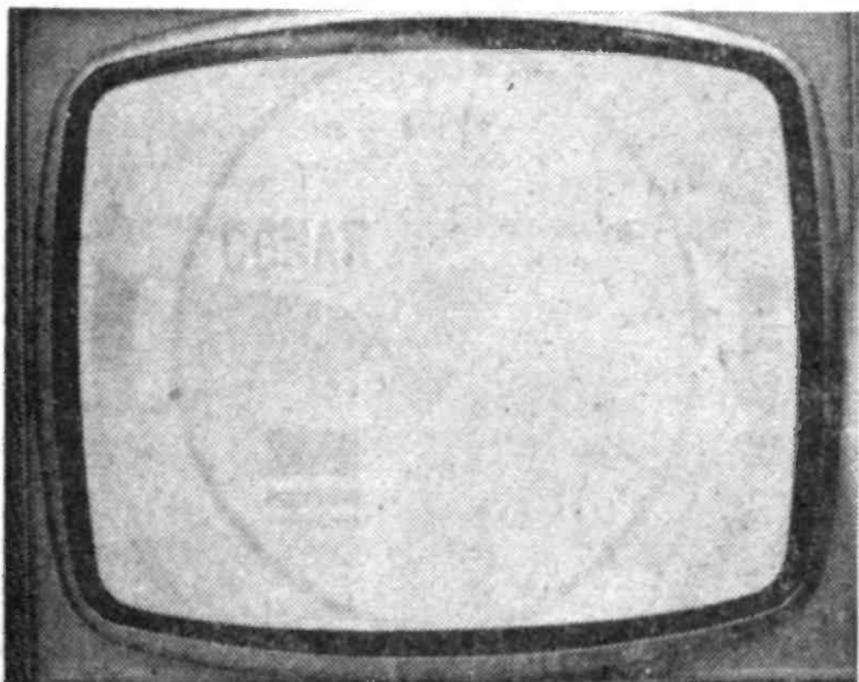
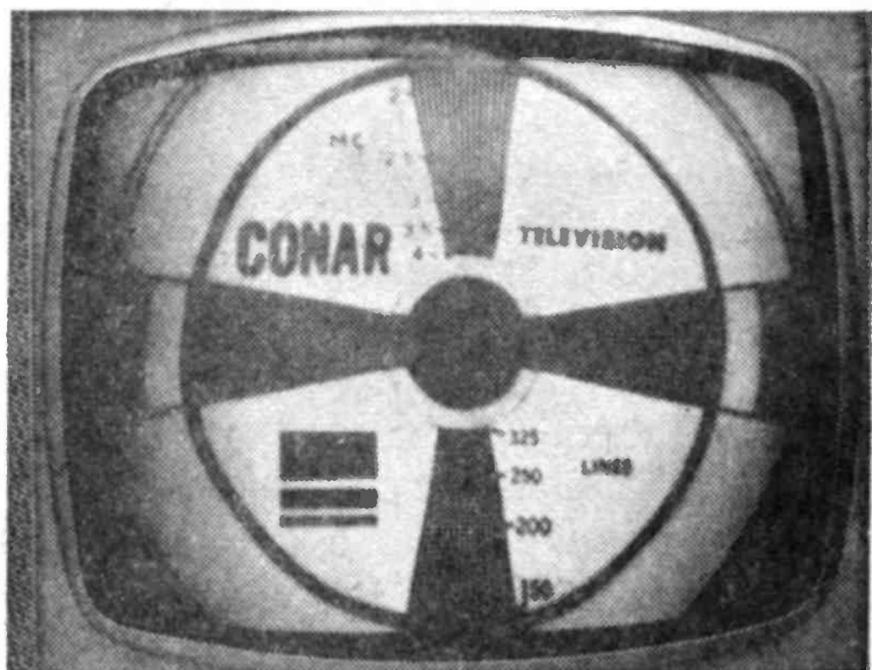

Fig. 4. Setting brightness control too high will cause a picture detail to wash out.
Fig. 5. Excessive contrast results in loss of picture detail and subtler gray shadings.
**Contrast and Brightness.** Little can be said about these controls since their effects are well known and settings mostly a matter of preference. Excessive brightness (Fig. 4) washes out the picture and may cause a few diagonal white lines to appear at the top of the screen. They're eliminated by slightly reducing brightness or increasing contrast. Pour on excessive contrast (Fig. 5), and the picture assumes a grainy texture of strong